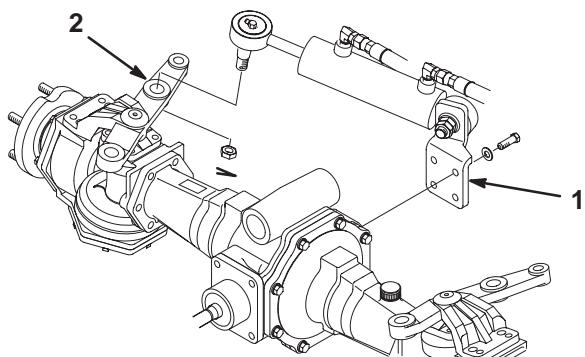

Figure 2
2. Mount cylinder support bracket to rear of axle with 4 screws (M10 x 30) screws and washers (Fig. 2). Apply Loctite 242, or equivalent, and torque screws to 34-42 ft.-lb. (46-56 N·m).
4. Secure ball joint end to steering arm with castle nut (Fig. 2) and torque it to 70-90 ft.-lb. (94-122 N·m). Install cotter pin.